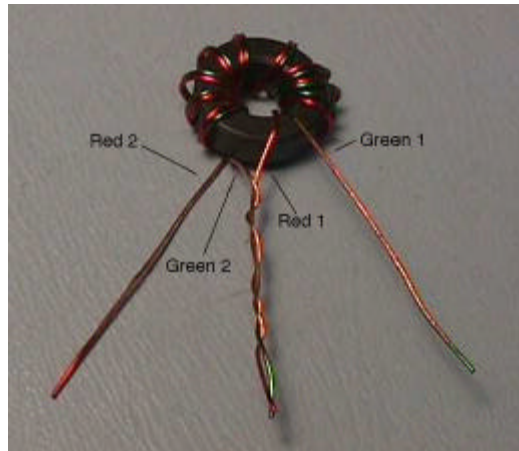

Figure 2 T1 Example
- ___ Wind T1 with 10 turns using the red and green #28 gauge wire. T1 is the small, black toroid just under one half inch in diameter. See figure 2 and wind this in bifilar fashion by using two lengths of wire and winding them at the same time. It doesn't matter if you twist them or wind them side by side. Note: you must wind this in the direction shown in figure 2.